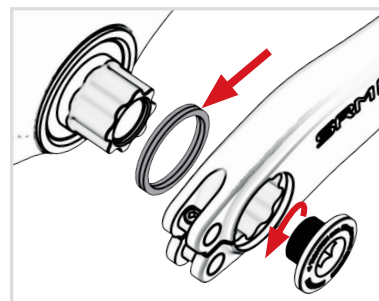

FIG. 2
- Apply a light thread locker (violet) to the threads of the axle bolt and slightly tighten with a 10mm allen key (Fig. 2).